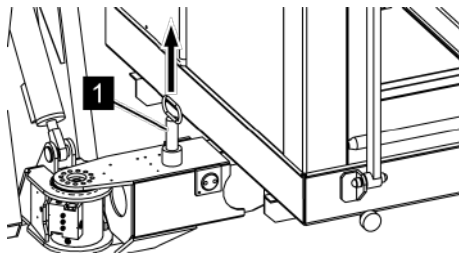

Fig. 108: Pull out the fastening bolts
4. ➔ Pull the fastening bolts (Fig. 108/1) as far upwards as possible.